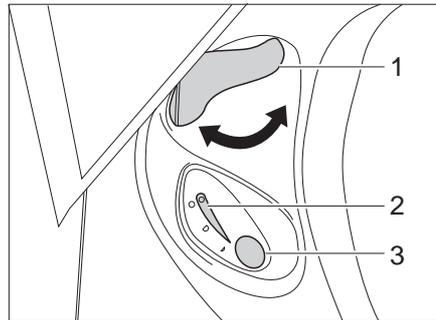

Fig. 159 Operating unit Thetford toilet
- Before flushing open the sliding trap of the Thetford toilet. To do this, turn the slide lever (Fig. 159,1) anticlockwise.
- For flushing, press the blue flush button (Fig. 159,3).
The indicator lamp (Fig. 159,2) goes on whenever the Thetford cassette has to be emptied.
- Turn the slide lever (Fig. 159,1) clockwise. The sliding trap is closed. To empty, the sliding trap in the Thetford toilet **must** be closed.